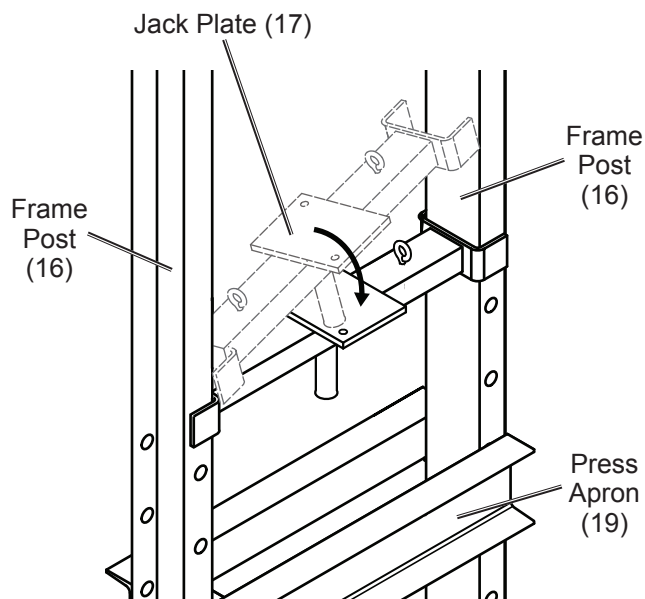

Figure 6
- Angle the Jack Plate (17) so the rails of the Jack Plate straddle the Frame Posts (16), then lower into place by sliding it down the Frame Posts so it rests temporarily on the Press Apron. See Figure 6.